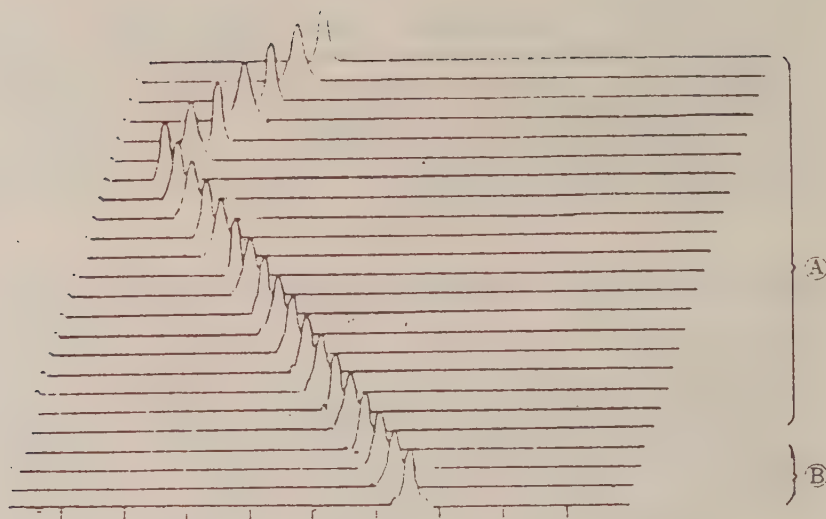
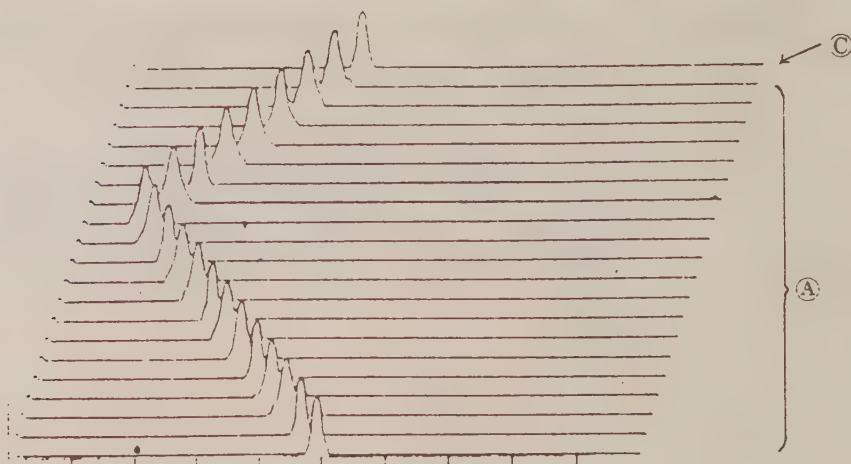

Fig. 1
Fig. 2
The standard three-dimension display is limited to 24 spectra. In contrast to this, using the CF-037, the 24 spectra are displayed, after which the first four are erased, the remaining 20 spectra are lowered and four new spectra are displayed in place of the four erased spectra. The effect of this sequence is illustrated in Fig. 1 and Fig. 2.
- * A normal 24-line three-dimensional spectral display is shown in Fig. 1.
* In Fig. 2 we see that one new spectral line has replaced an old spectral line at the top of the display at C. (As long as the PAUSE pushbutton is not pressed, another three spectra will replace the erased lines.)